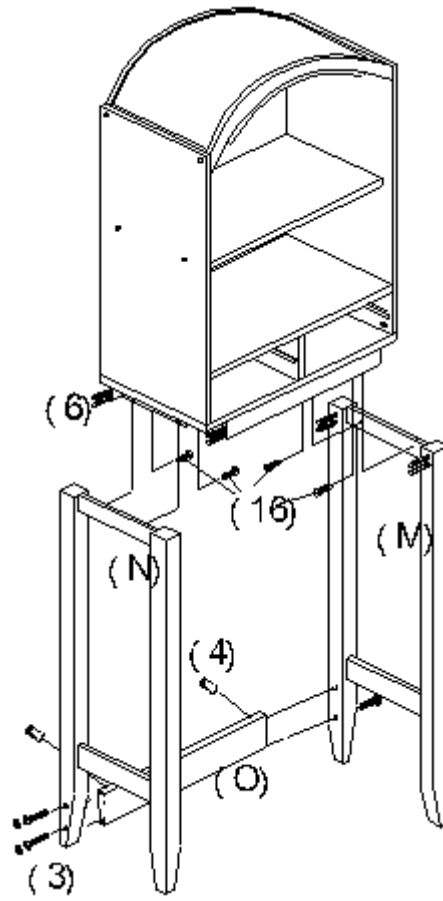

FIGURE 4
- INSERT LARGE WOOD DOWELS ($\text{\O}8\text{x}30\text{mm}$) (6) INTO PREDRILLED HOLES ON WOOD BARS ON UNDERSIDE OF BOTTOM PANEL (K), THEN FIT INTO CORRESPONDING HOLES ON INSIDE OF LOWER LEFT AND RIGHT SIDE FRAMES (M, N). INSERT LARGE FLAT HEAD WOOD SCREWS ($\text{\O}4\text{X}25\text{mm}$) (16) THROUGH PREDRILLED HOLES ON WOOD BARS ON UNDERSIDE OF BOTTOM PANEL (K) AND TIGHTEN INTO CORRESPONDING HOLES ON INSIDE OF LOWER LEFT AND RIGHT SIDE FRAMES (M, N). INSERT T-BOLTS (4) INTO PREDRILLED HOLES ON BACK OF CROSS BRACE (O). TIGHTEN X-LARGE MACHINE SCREWS ($\text{\O}1/4\text{''}\text{X}2\text{-}1/4\text{''}$) (3) THROUGH PREDRILLED HOLES ON OUTSIDE OF LOWER LEFT AND RIGHT SIDE FRAMES (M, N) INTO T-BOLTS (4). PLEASE NOTE THAT IF SCREWS DO NOT TIGHTEN, ROTATE T-BOLTS (4) SO THAT THE THREADS OF T-BOLTS (4) ARE FACING SCREWS. (AS SHOWN IN FIGURE 4)